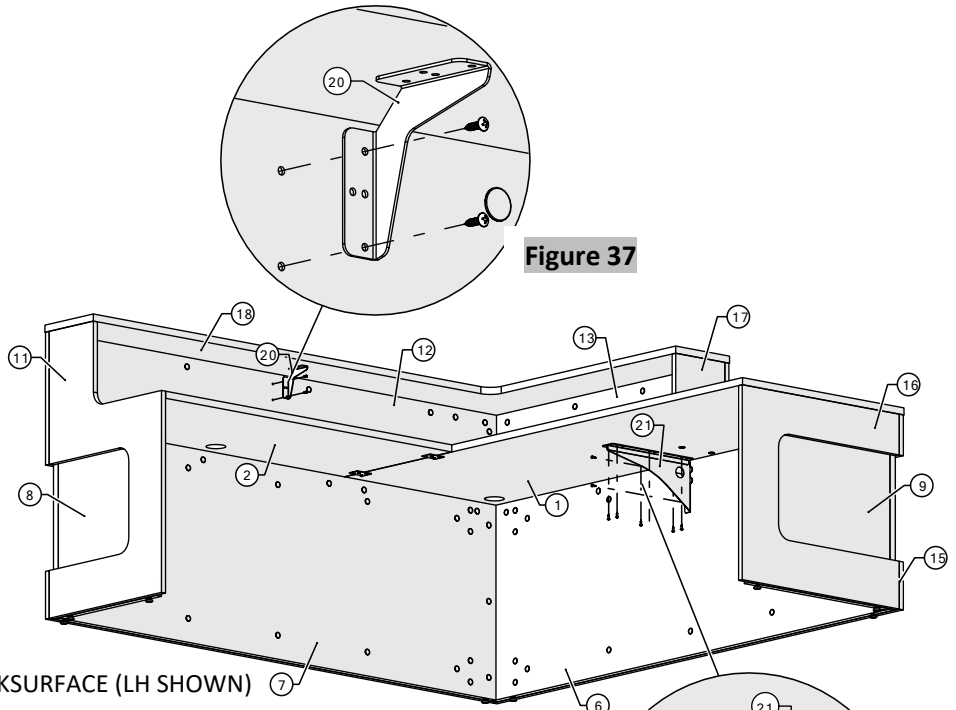

Figure 37
34. Align holes in the countertop bracket to pre-drilled holes of the border-upper return; screw two #10 x 11/16" Pan Head Screws into the pre-drilled holes (Figure 37).